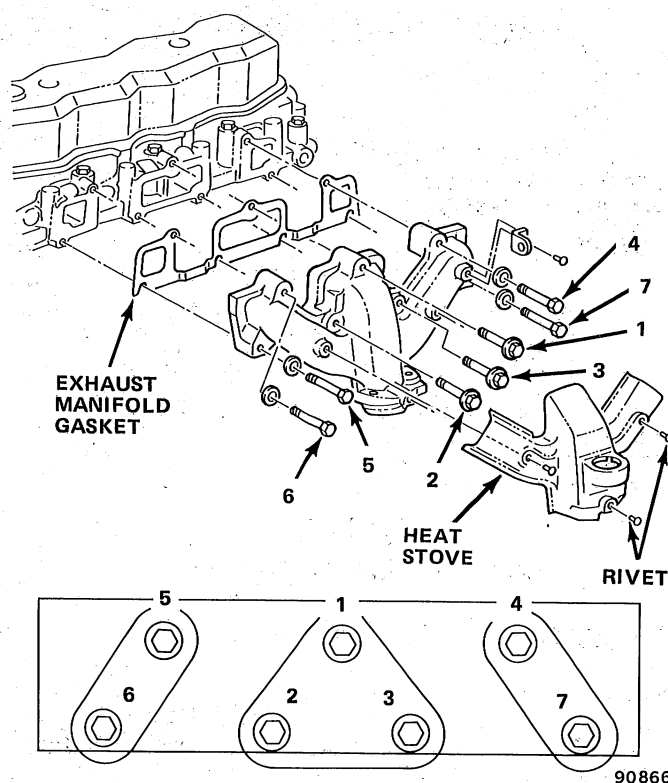

Fig. 1B-24 Exhaust Manifold Tightening Sequence
- (1) Remove air cleaner and heated air tube.
- (2) Remove engine oil dipstick tube attaching bolt.
- (3) Remove oxygen sensor, if equipped.
- (4) Raise vehicle and disconnect exhaust pipe from manifold. Lower vehicle.
- (5) Remove exhaust manifold bolts and remove manifold and gasket.
- (6) Install replacement gasket and exhaust manifold on cylinder head. Tighten all bolts with 39 foot-pounds (52 N•m) torque in the sequence illustrated in figure 1B-24.
- (7) Install dipstick tube attaching bolt.